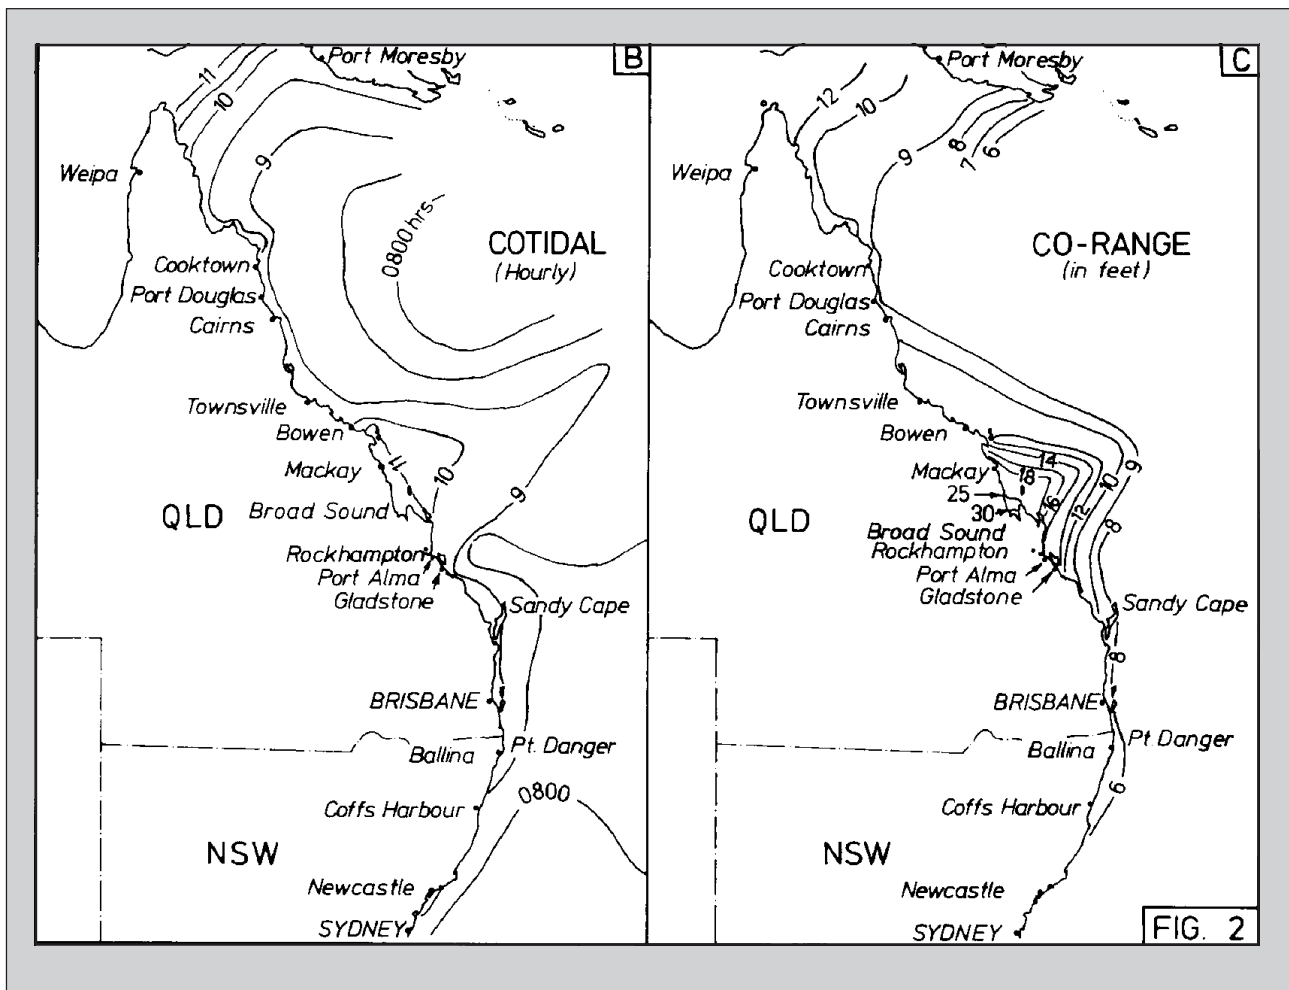

Figure 74.3 Cotidal and corange lines as the tide approaches coastline
Tidal behaviour in Queensland can be illustrated by the distribution of cotidal and corange lines plotted in Figures 74.3 B and C. Cotidal lines join places which experience high tide at the same time. An arbitrary start time is marked on one line and the progress and shape of the crest of the tidal wave can then be followed. Corange lines link up places which have the same maximum tidal range.
- From the information in Figure 74.3.c on corange, predict the tidal range in metres for the following towns:
- Predict which areas or towns in Figure 74.3.b, would experience high tides at the same times as Rockhampton.